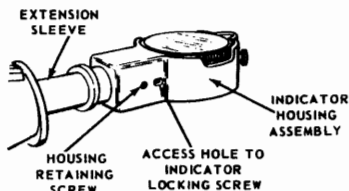

FIGURE 5
1. See Figure 5. Using a 1/8" hex wrench, loosen Housing Retaining Screw approximately two turns.